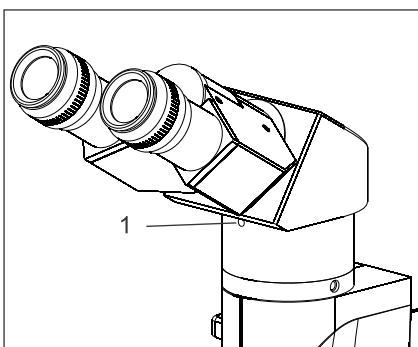

Fig. 5
1. Using allen wrench 3mm (provided), loosen the Head Locking Screw (1) and remove the dust cover cap provided in dovetail cavity as well as on observation head dovetail.
3. Tighten the Head Locking Screw (1) after positioning the Observation Head as desired. See figure 5.